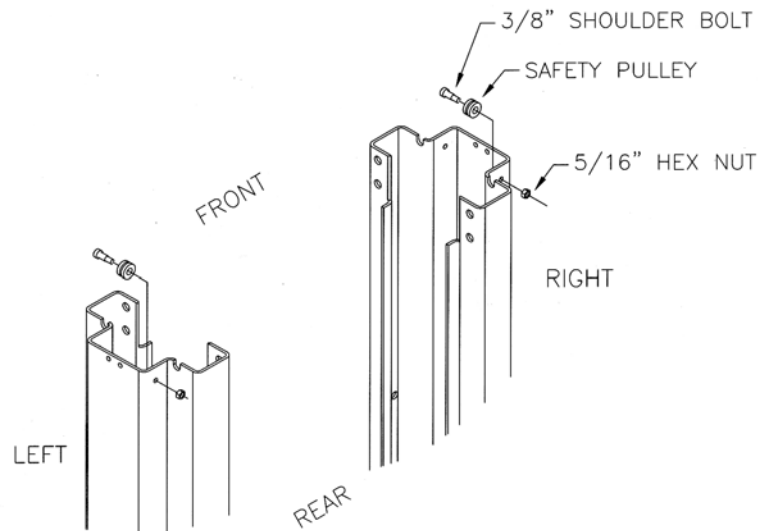

Figure 5 - Safety Release Pulley Installation
1. Install the safety pulley on each tower as shown in **Figure 5**.